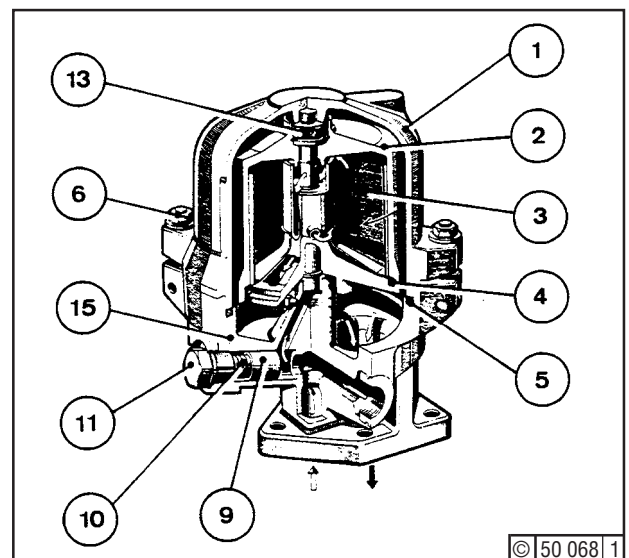
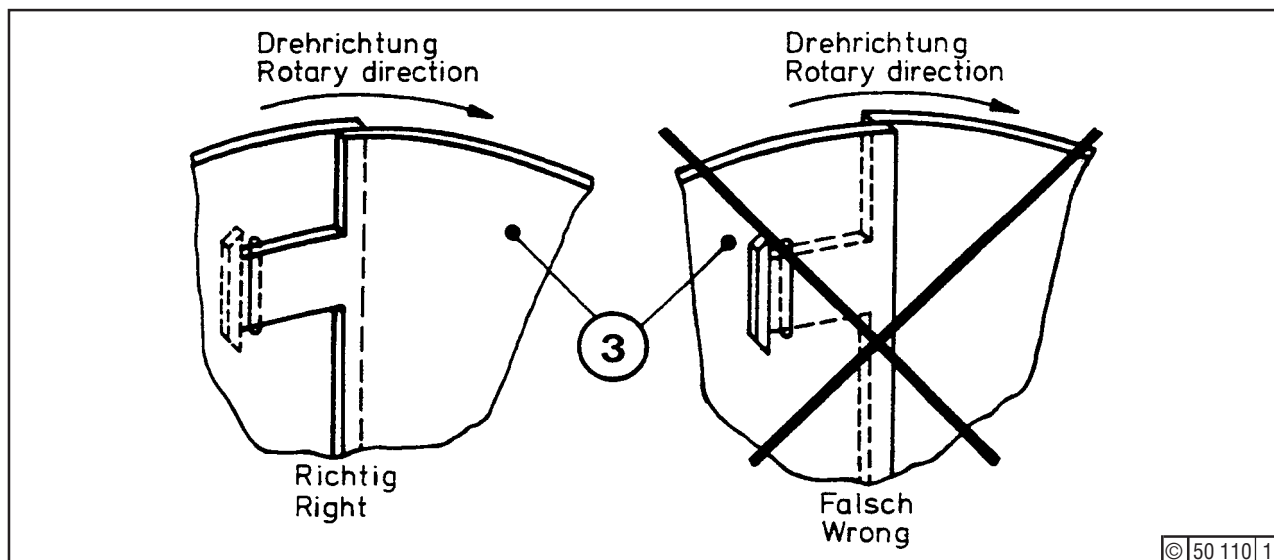

Fig. 1
Fig. 2
Stop engine or close feed line. Remove screw plug (11) - Fig. 1 - together with sealing ring. Take out valve (9) and spring (10). Collect oil in a container. Unscrew nuts (6) and fold down studs. Remove cover (1). Lift rotor (2) carefully out of body lower part. Clamp rotor base at flats in vice. Now loosen fastening nut (13) in rotor upper part with socket wrench.
Install valve (9) complete with spring (10), and screw plug (11) together with sealing ring. Fit new lining (3) Fig. 2. Push rotor upper part carefully over rotor lower part, paying attention to the fixing location of both parts. Tighten fastening nut (13) - Fig. 1. Place assembled rotor in body and check for smooth running. Mount cover (1) without using force, and tighten nuts (6).